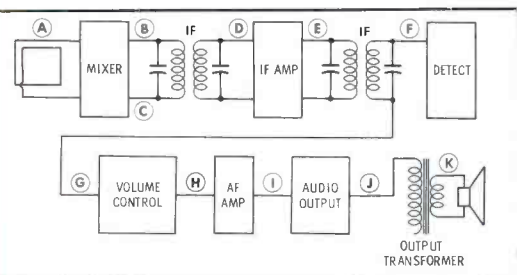

Fig. 6. The points in a typical tube-type receiver at which the tracer can be connected.
Fig. 6 shows the arrangement of a typical receiver. If the signal at point B is masked by hum, you can do one of three things. You can (1) move to point D, and if the signal is satisfactory there, assume it is satisfactory at B; (2) provide a stronger signal by placing a four- or five-turn wire loop near the antenna and connecting it to a signal